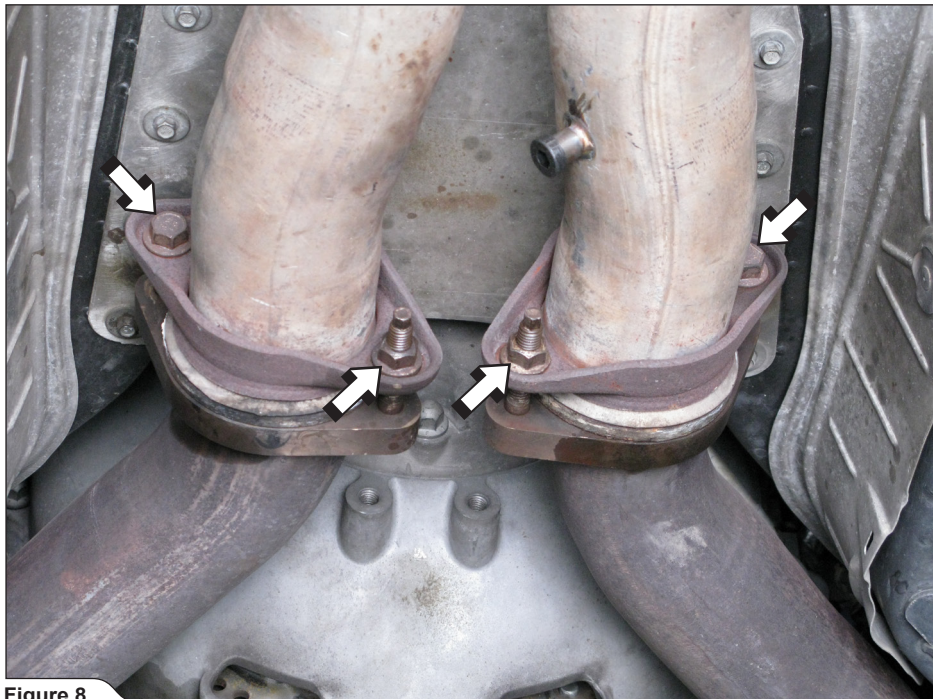

Figure 8
6. **For Evolution only:** unscrew the marked bolts and nuts (**Figure 8**).